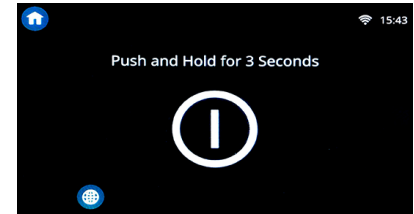

Figure 1
1. Ensure the controller is in the **OFF** position (see Figure 1).
3. Press and hold the controller  button for 3 seconds until the fryer is on (see Figure 1).
4. The fryer will try to light the burners. The fryer may try several times to light while it purges any air out of the gas manifold. If the burners fail to light after multiple tries, press the controller  button to the **OFF** position (see Figure 1) and wait 60 seconds. Repeat step 3.